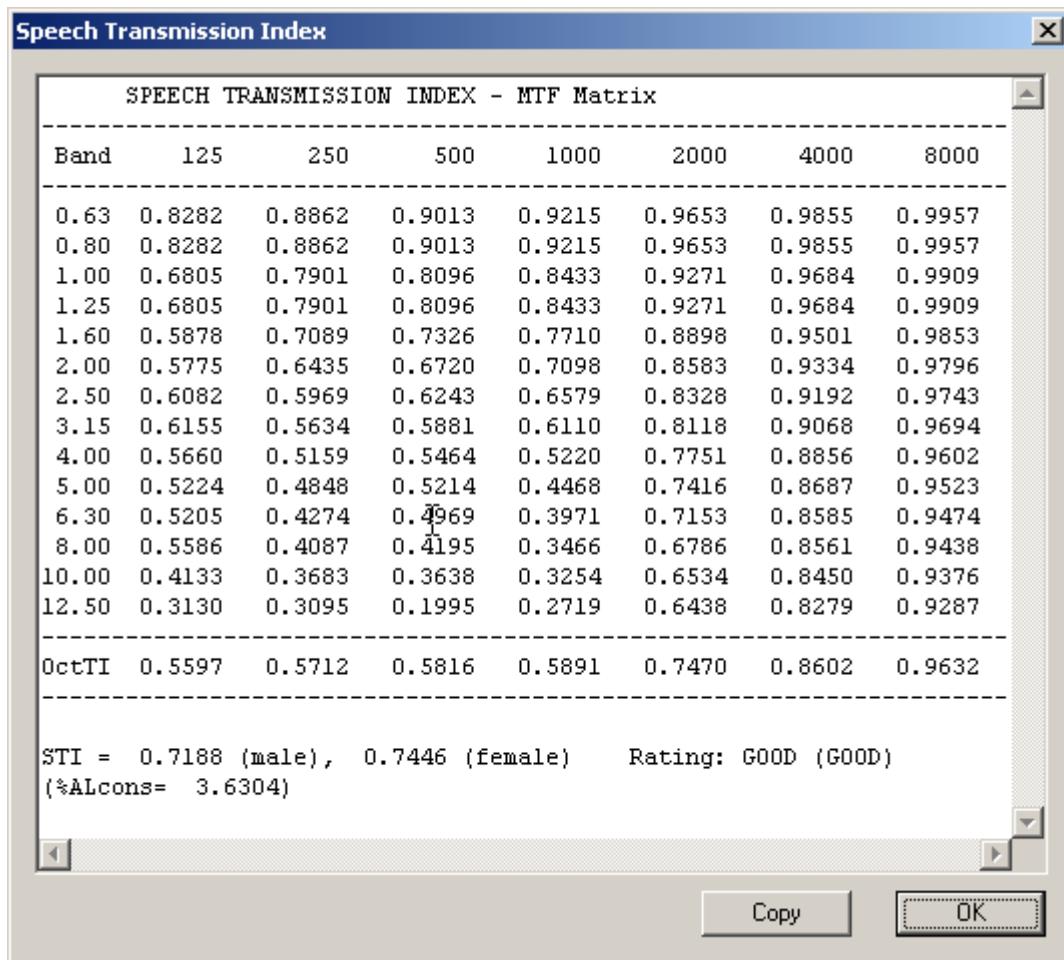

Figure 8.3 STI window
7. Finally, the ARTA gives report of MTF values, OTI values and STI ratings, as in Figure 8.3.